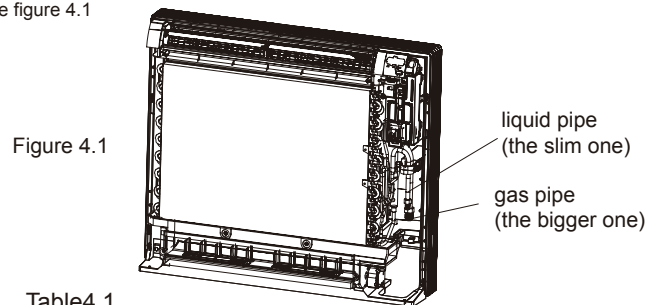

Figure 4.1
- ◆ All gas and liquid piping must be properly insulated; otherwise, this may cause water to leak. Use heat insulation materials that can withstand high temperatures above 120°C to insulate the gas pipes. In addition, the insulation of the refrigerant piping should be reinforced (20 mm or thicker) in situations where there is high temperature and/or high humidity (when part of refrigerant piping part is higher than 30°C or when the humidity exceeds RH80%). Otherwise, the surface of the heat insulation material may be exposed. The sizes of copper pipe see table 4.1 and position of gas&liquid pipe see figure 4.1